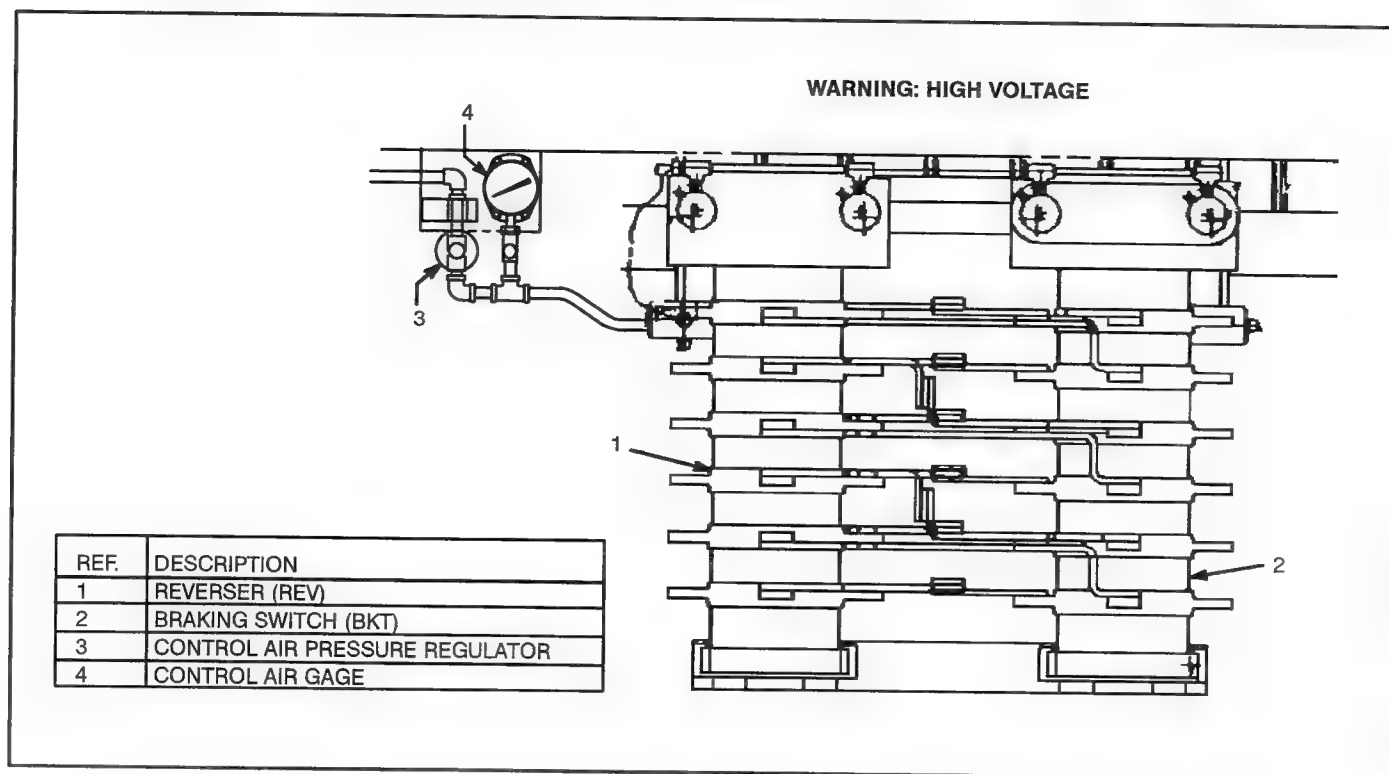

FIG. 26. CONTROL AREA 7 – LOCATED ON THE LEFT SIDE OF THE LOCOMOTIVE. E-40702.
Control Air Reducing Valve (Located in Control Area 7, Fig. 26)
Located on the left (B) side of the locomotive (Fig. 26).
1. Control Air Gage – Located in Control Area 7 (Fig. 26). Normal control air pressure is 80 psi (551,2 kPa).